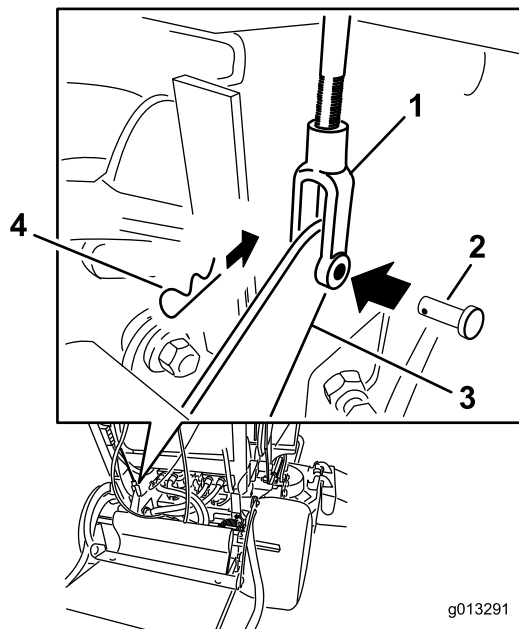

Figure 62
4. To adjust the brake, remove the clevis pin and hairpin cotter from the lower-brake lever and yoke (Figure 62).
7. Secure the yoke to the lower-brake lever with the clevis pin and hairpin cotter (Figure 62).